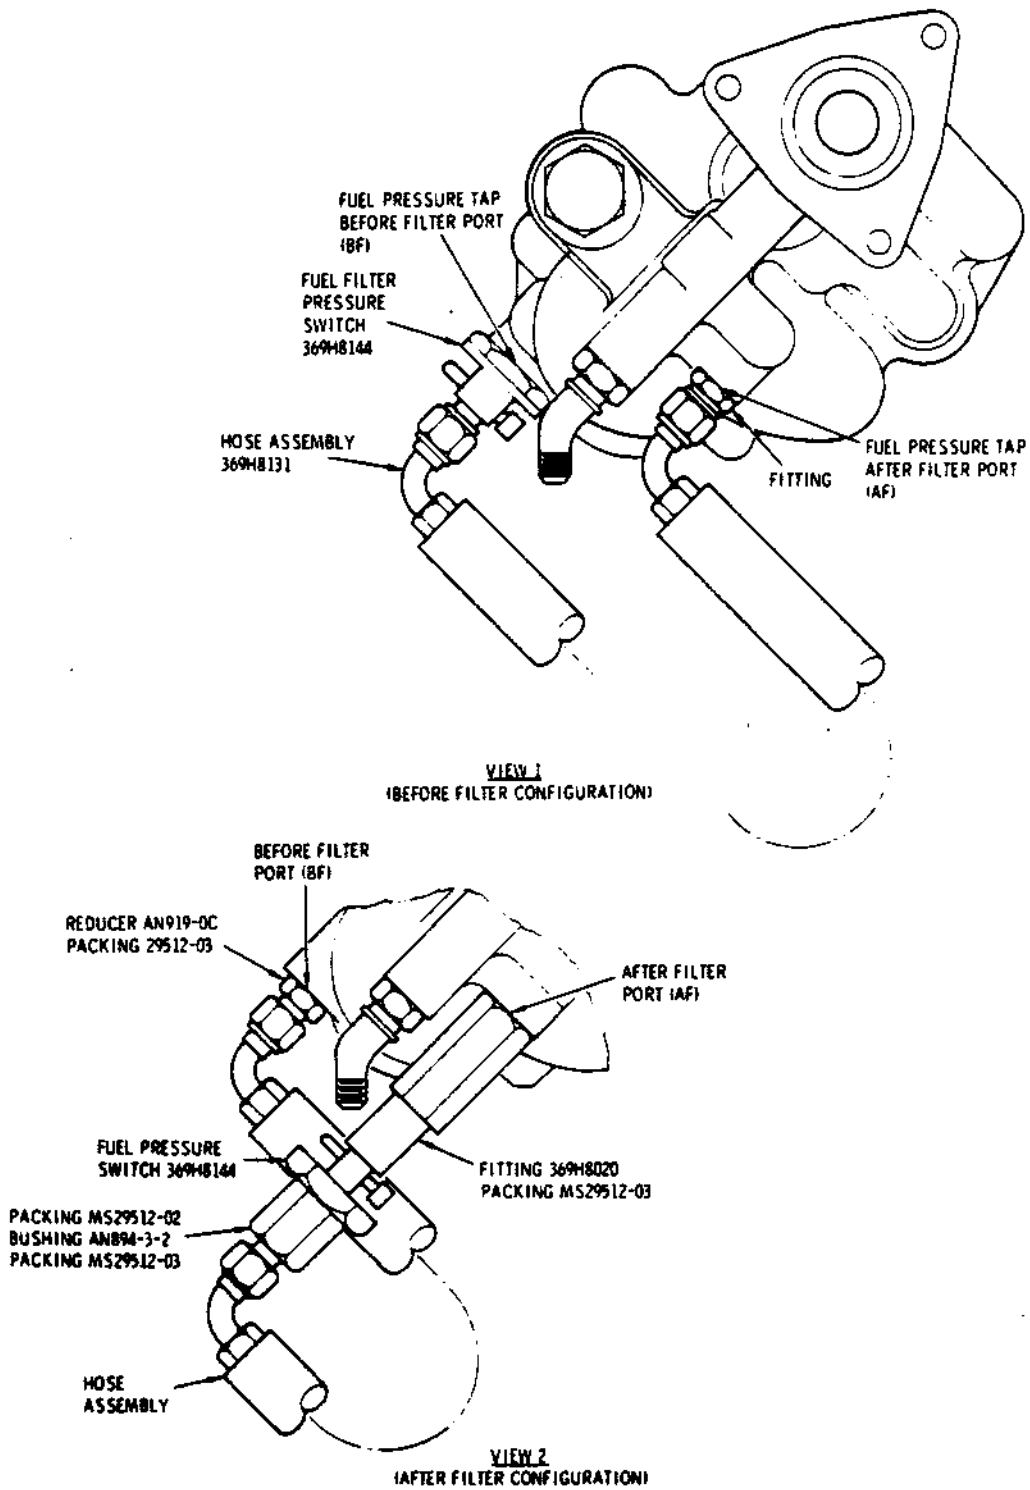

Figure 1. Fuel filter pressure switch relocation
- c. Remove hose from pressure switch (fuel pressure tap before filter) and from accessory case boss (fuel pressure tap after filter). (See Figure 1, View 1.)
- f. Install AN919-0C Reducer with MS29512-03 Packing. (See Figure 1, View 2.)